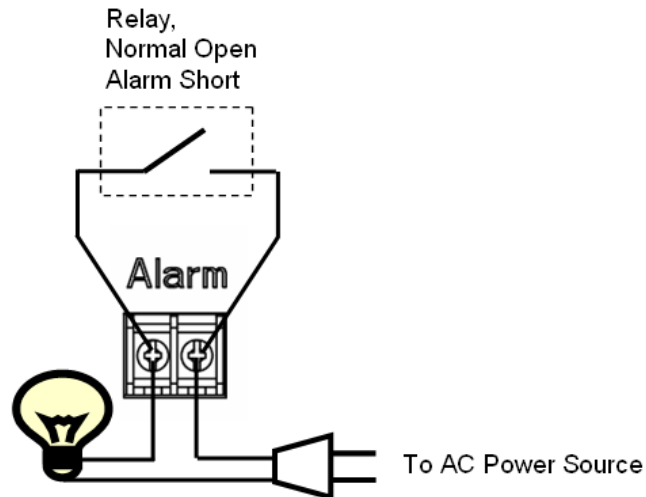

Figure 1-6 Example of Building Alarm Indication Using the Alarm Connector
**ALARM:** It is an internal relay triggered by some alarm signal, such as TEC module failure, temperature sensor failure, or some internal circuit failures. The two connector points are open in normal status, and becomes short when alarm occurs. One can use this to form an alarm loop for lightening a bulb, turn on a siren, or whatever enabled in the loop. Figure 1-6 shows an example using a bulb as the alarm indicator. The rated specification of this connector is 24Vdc, 1A.